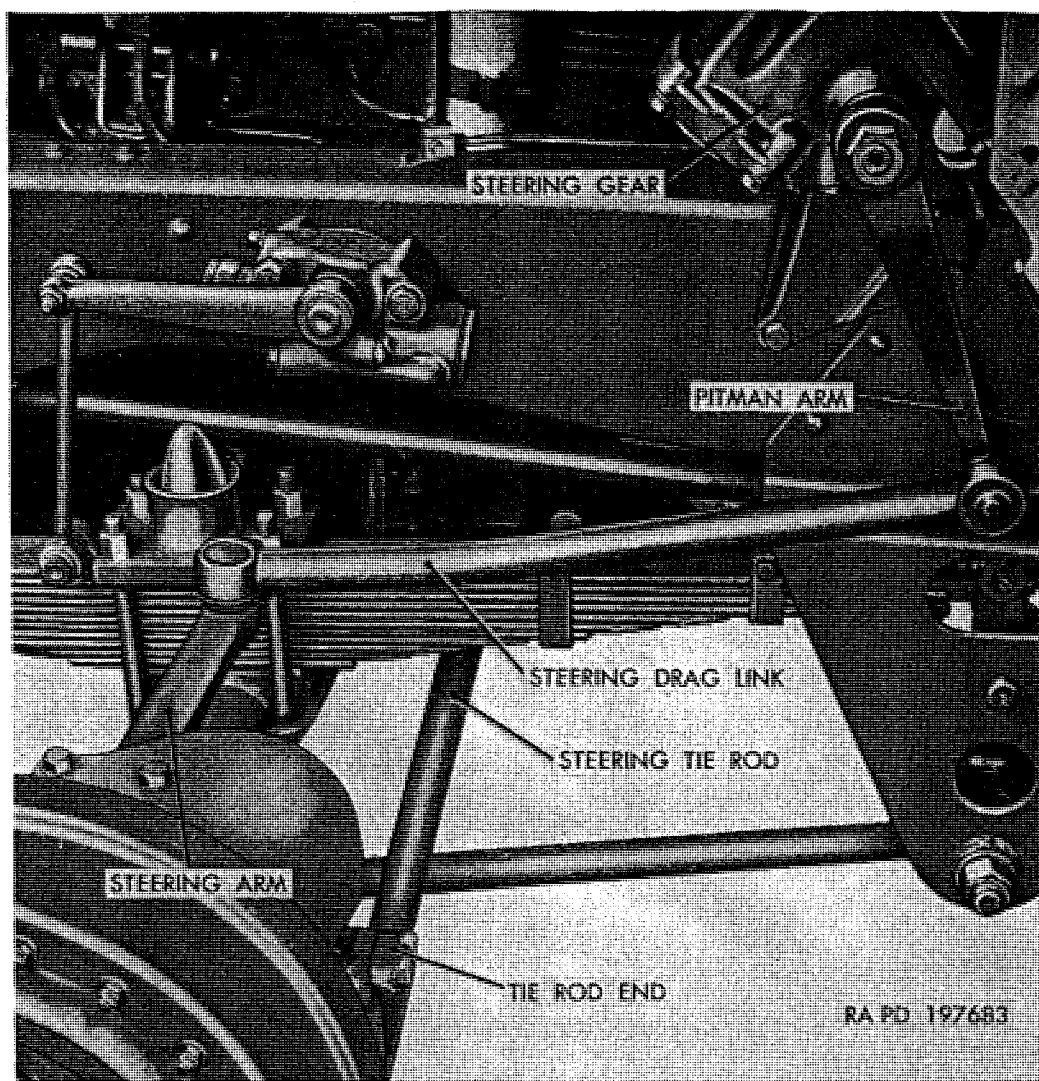

Figure 275. Steering linkage installed.
a. Description. The steering system consists of a recirculating-ball type steering gear assembly, mounted on frame left side member, interconnected from pitman arm to front axle left steering arm with a steering drag link (fig. 275). Movement of the steering wheel is transmitted through steering gear mechanism and drag link to the axle steering arm. Both wheels are turned by means of a tie rod interconnecting the front axle right and left steering knuckles. Components of the tie rod and front axle are described in paragraphs 215-222.
(fig. 275)